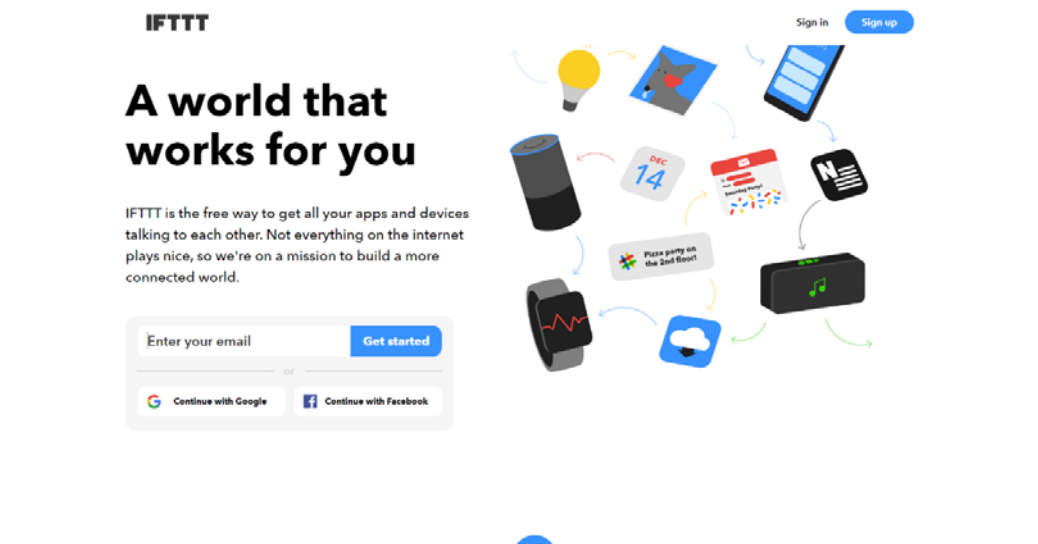

Figure 73: IFTTT Signup Page
1. Go to <https://ifttt.com/> and sign up for account (Figure 73).